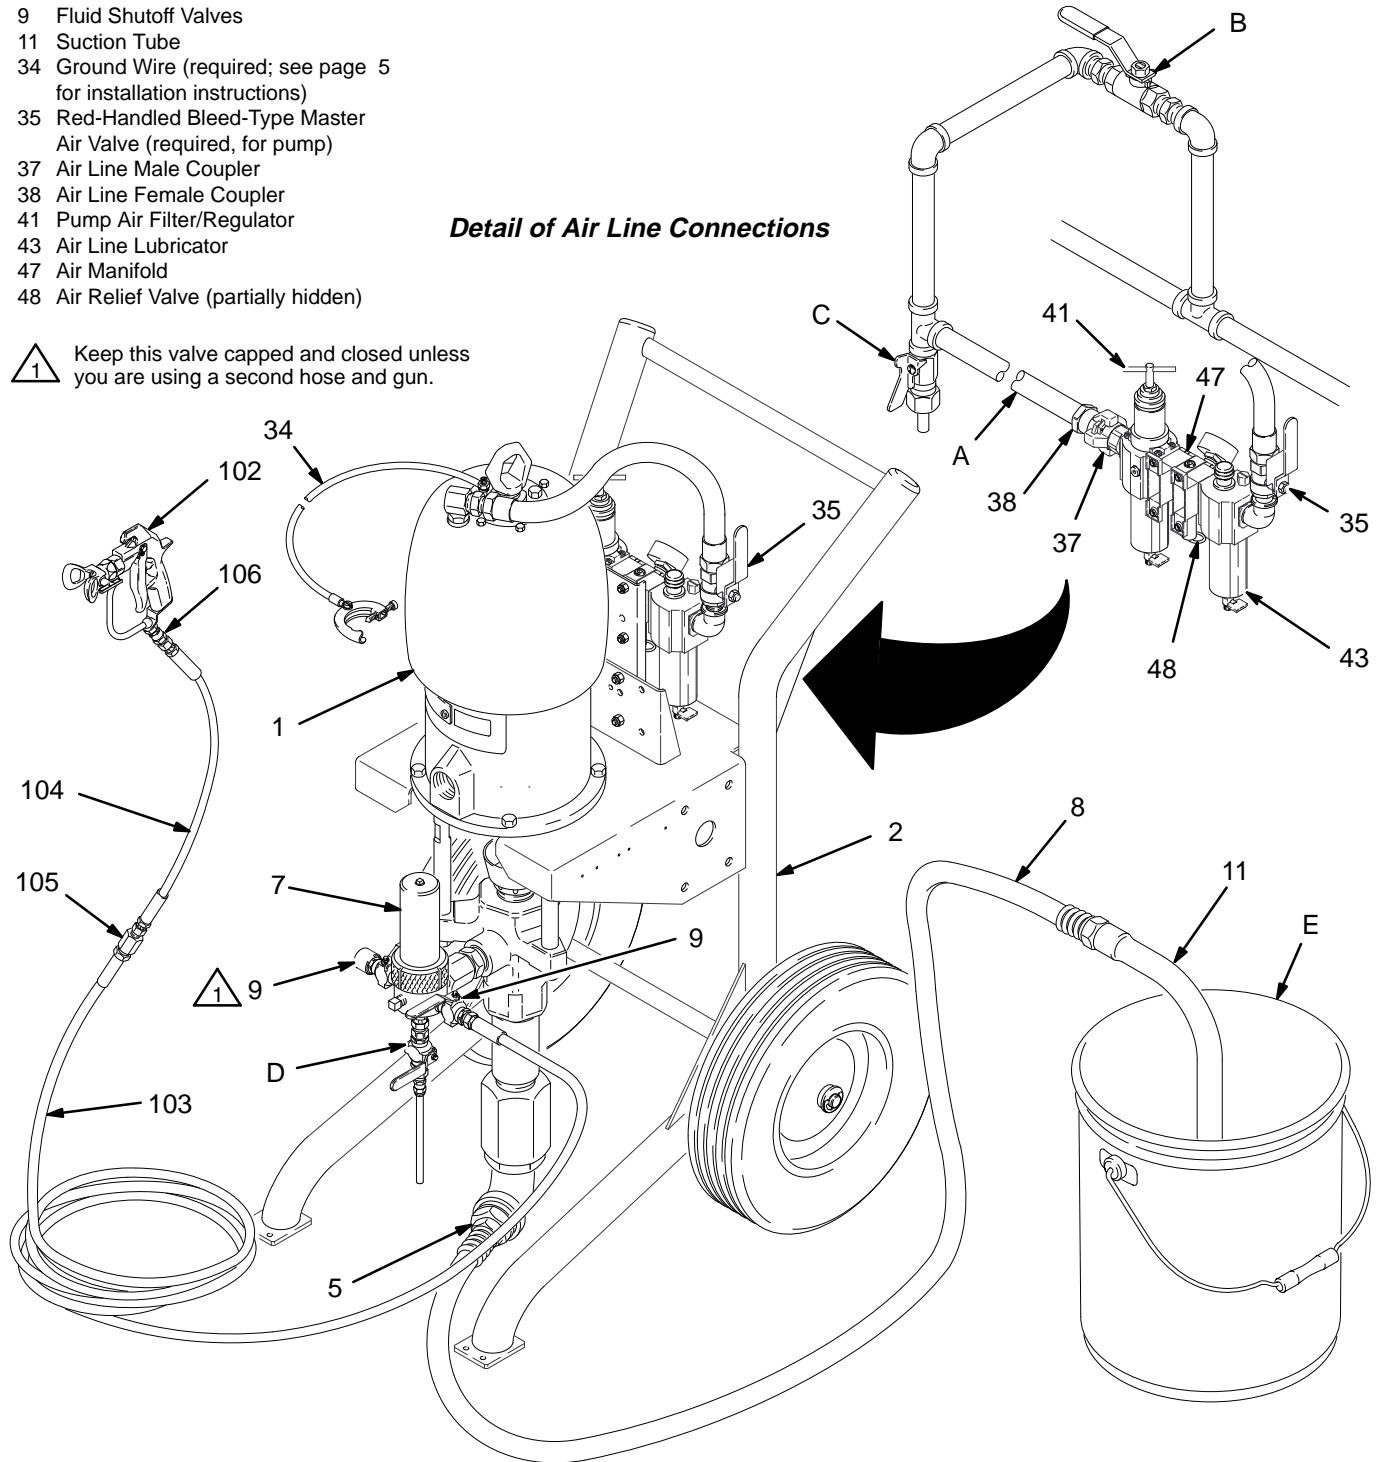

Fig. 2
Fig. 2 is only a guide for selecting and installing system components and accessories. Contact your Graco distributor for assistance in designing a system to suit your particular needs.
Refer to Fig. 2. Bring a compressed air supply line (A) from the air compressor to the pump location. Be sure all air hoses (A) are properly sized and pressure-rated for your system. Use only electrically conductive hoses. The air hose should have a 3/4 npt(m) thread.
Refer to Fig. 2.